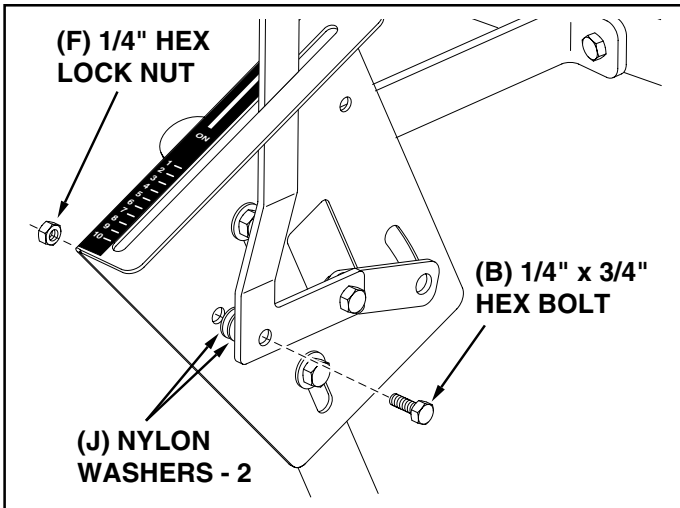

FIGURE 8
20. Assemble the flow control arm to the flow control mounting bracket using a 1/4" x 3/4" hex bolt (D), two nylon washers (J) and a 1/4" hex lock nut (F). **Tighten carefully.** The flow control arm should be snug but should pivot with no more than slight resistance. See figure 8.